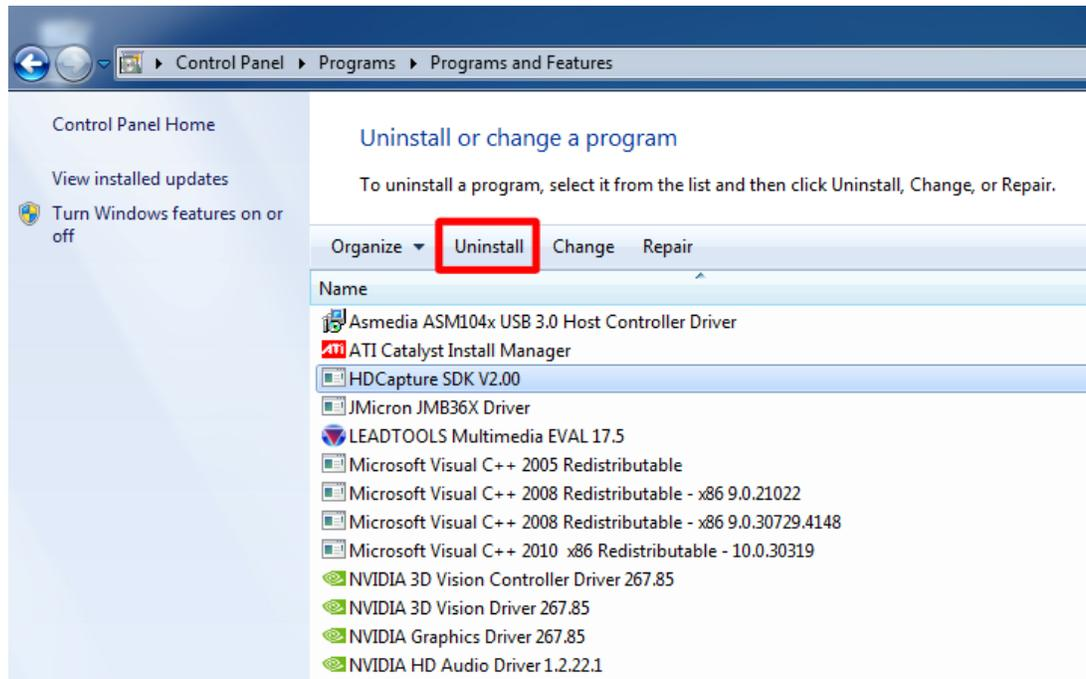

Figure 1-14: Uninstall HDCapture SDK
Step 2: Select HDCapture SDK and click the **Uninstall** button to uninstall the HDCapture SDK (**Figure 1-14**).